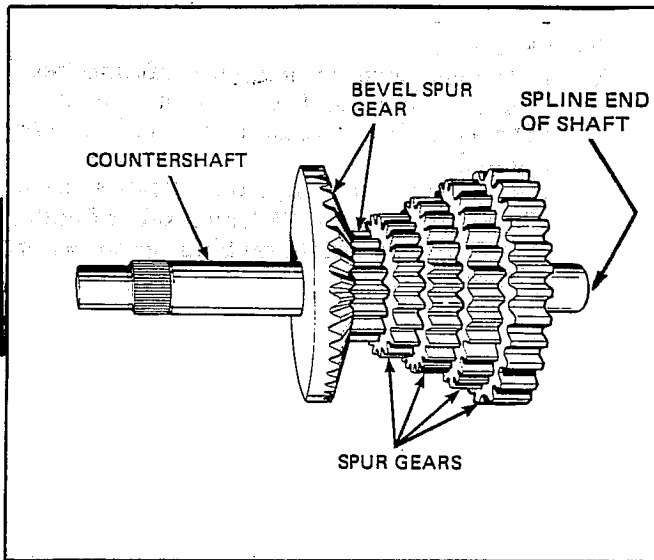

Figure 2-52
4. Install bevel spur gear and smallest to largest spur gears to the splined end of the countershaft. See Figure 2-52.